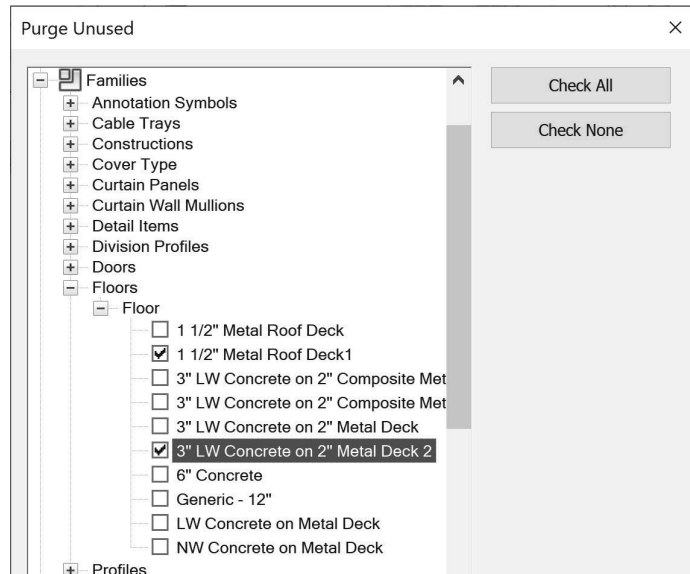

Figure 1–56
2. In the *Purge Unused* dialog box, click **Check None**, then expand **Floors>Floor**. Select **1 1/2" Metal Roof Deck1** and **3" LW Concrete on 2" Metal Deck 2**, as shown in Figure 1–56.